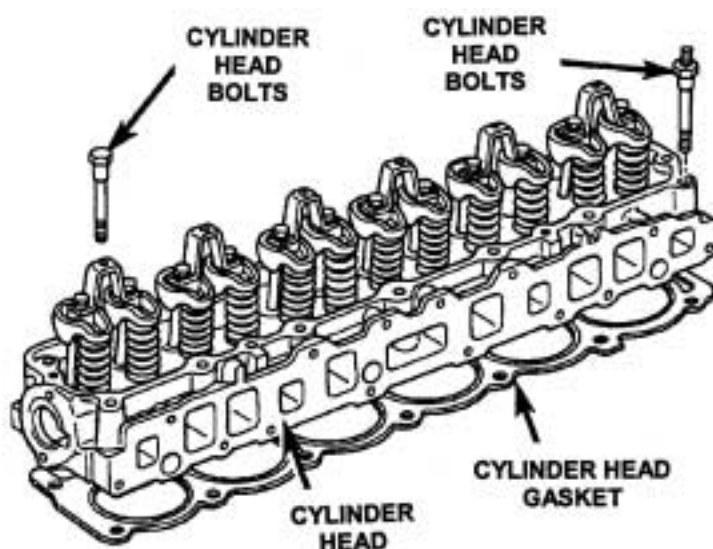

Figure 11
26. Remove the cylinder head bolts (Figure 11).
27. Remove the engine cylinder head and the intake-exhaust manifold as an assembly. Then remove and discard the cylinder head gasket (Figure 11).